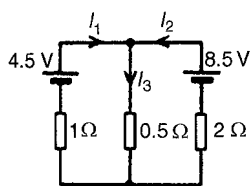

Figure 13.24
- 1 Use the superposition theorem to find currents I_1 , I_2 and I_3 of Fig. 13.24